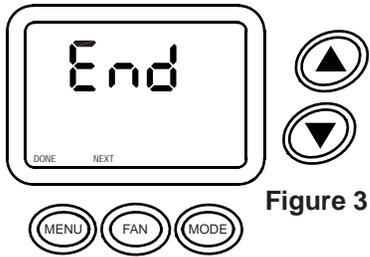

Figure 3
11. **END** will appear on the display when programming is completed (Figure 3).